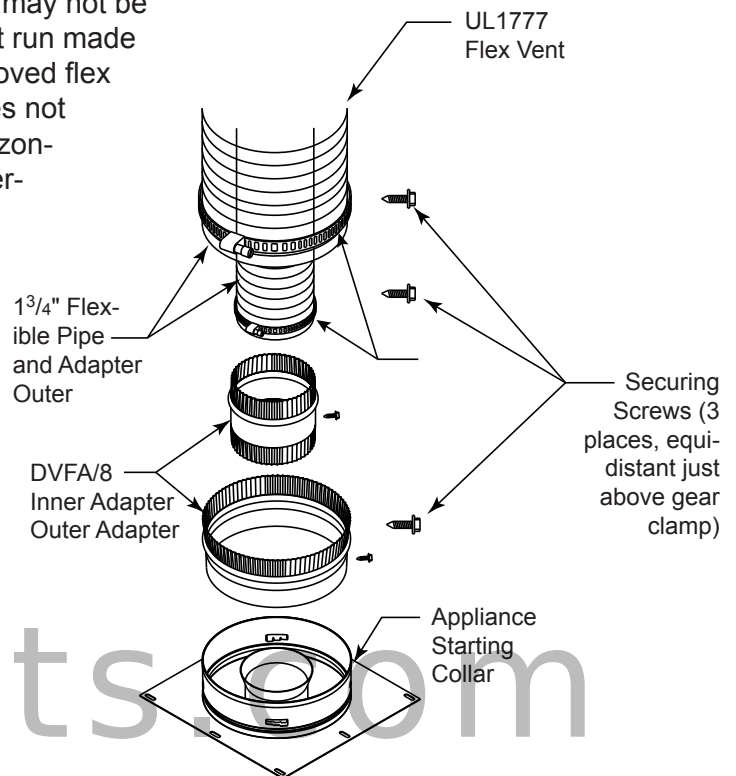

Figure 34 - Typical Appliance Connection
2. The flex adapter starter kit (DVFA/8) is used to attach flex venting to the appliance starting collar. It includes 4" inner and 7" outer adapter rings. *Figure 34*
A. Installing the inner flex adapter and pipe. *Figure 34*
B. Installing the outer flex pipe. *Figure 34*